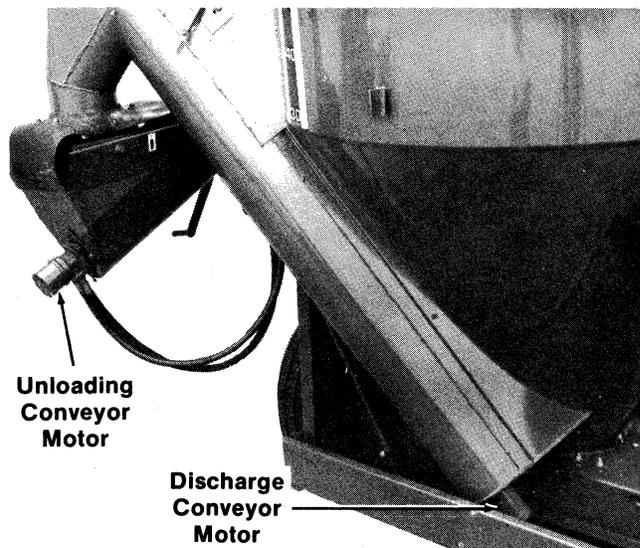
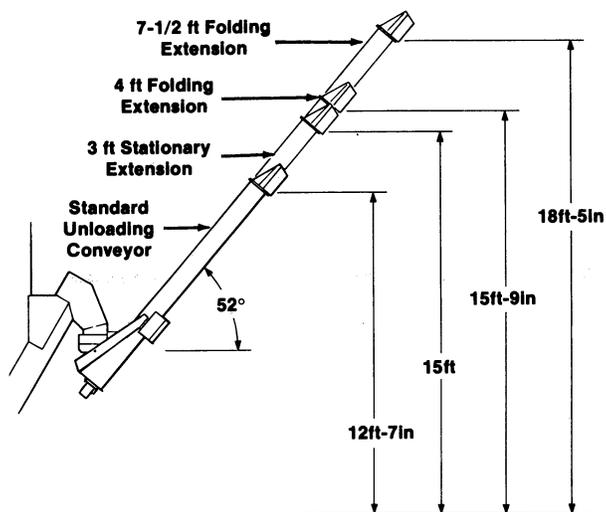

Fig. 6-7
Fig. 6-16
**DISCHARGE CONVEYOR (Figs. 6-7 & 6-8)**
(Fig. 6-16 & See Figs. 6-7, 6-8 & 6-14)